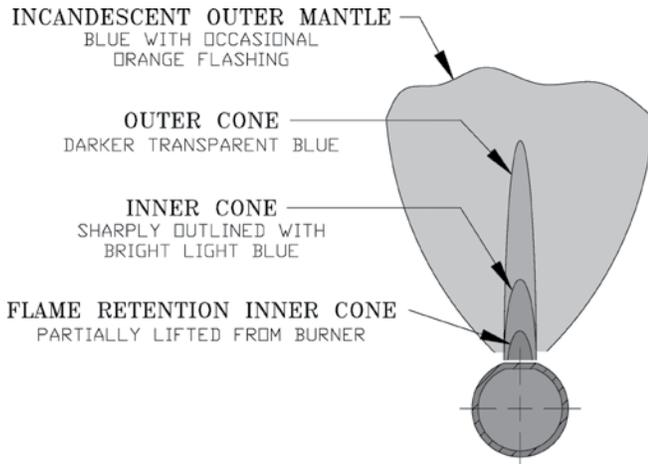

Figure 23: 1 Inch Main Burner Flame
I. Check main burner flame. See Figure 23. Flame should have clearly defined inner cone with no yellow tipping. Orange-yellow streaks should not be confused with true yellow tipping.